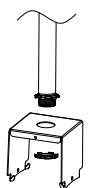

Figure 3
Step1.Mount the bracket on 3/4"NPT (Figure 3);